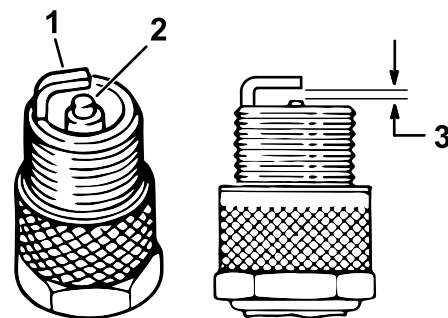

Figure 42
4. Check the condition of the side electrode, center electrode, and center electrode insulator to ensure that there is no damage (Figure 42).
5. Set the air gap between the center and side of the electrodes at 1 mm (0.04 inch) as shown in Figure 42.